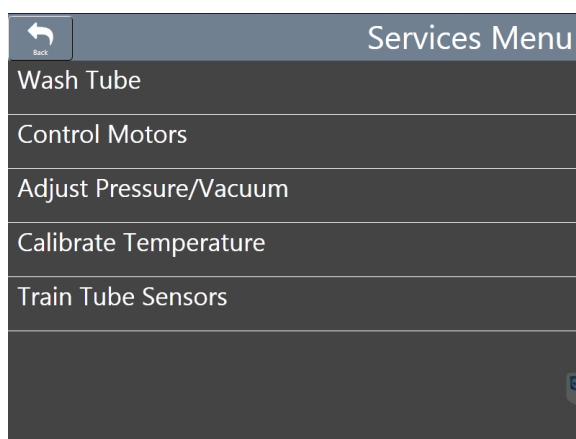

Figure 11 — Services Menu
2. On the bath screen, click on the **Service** button. The services menu opens. See Figure 11.